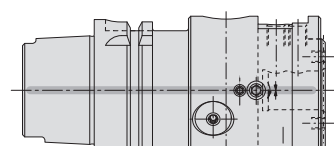

Fig. 1
- On the machine side, the precision tool is fitted with a Wohlhaupter **MULTI BORE**® connection (Fig. 1) or alternatively with HSK in monoblock design. Other versions on request.